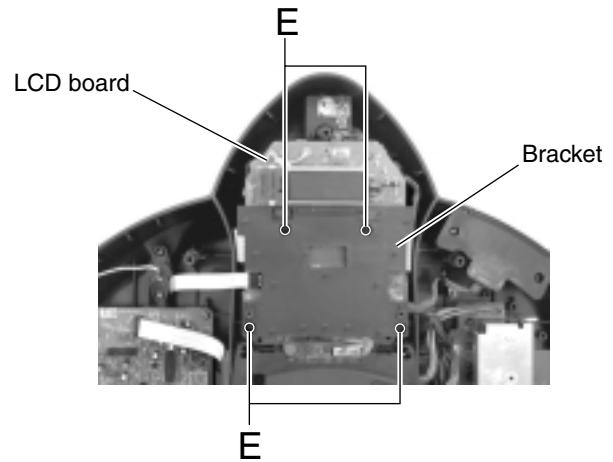

Fig.7
■ Removing the LCD board (See Fig.7 and 8)